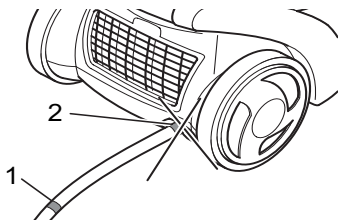

Fig. 10
2. Pull the cable holding the plug (Fig. 1/16) until the yellow mark (Fig. 10/1) is reached.
If the red mark (Fig. 10/2) is visible, then retract the cable again until it is no longer visible, ▷ *Chapter 3.2, "Switching off and retracting the power cable".* Otherwise the cable can break off. There is a risk of electric shock.